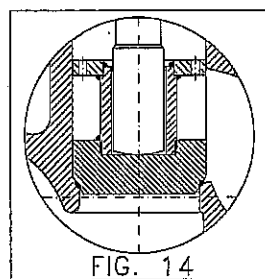

FIG. 14
- *Figure 14* ► it represents a globe valve with check closing.